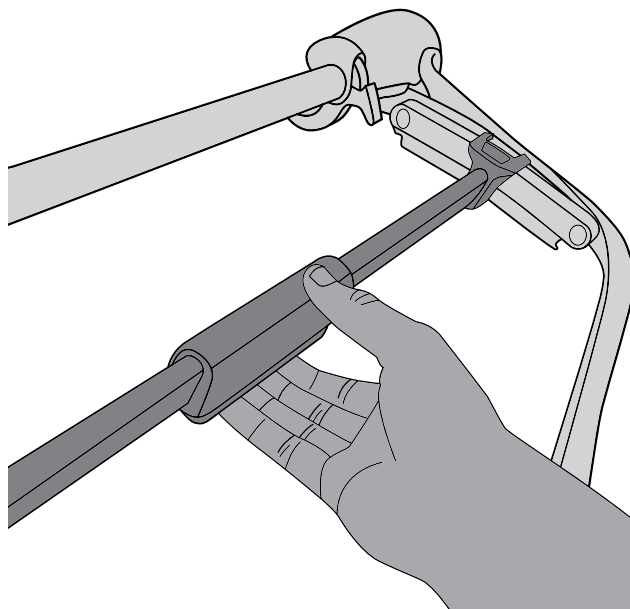

Figure 23
1. To adjust the recline, squeeze the yellow button on the bottom of the seat support, slide to the desired setting and release the yellow button (Figure 23).